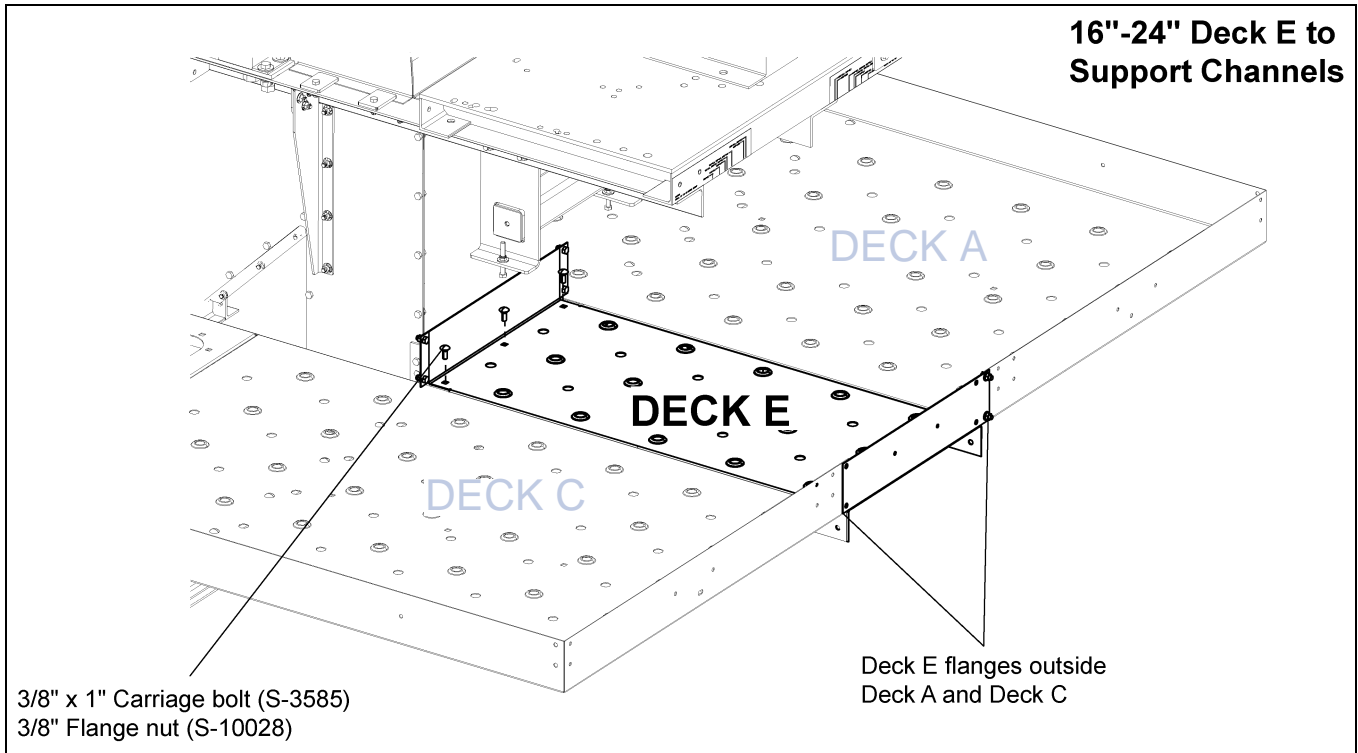

Figure 8I 24" Deck E to Support Channels
- Using 3/8" x 1" carriage bolts (S-3585) and 3/8" flange nuts (S-10028), connect Deck E to main support channel. **IMPORTANT:** Connect every hole. (See Figure 8I.)